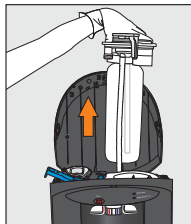

Figure 36
8. Pull SmartFlo™ SF-1 Water Cartridge upwards to remove (Figure 36)